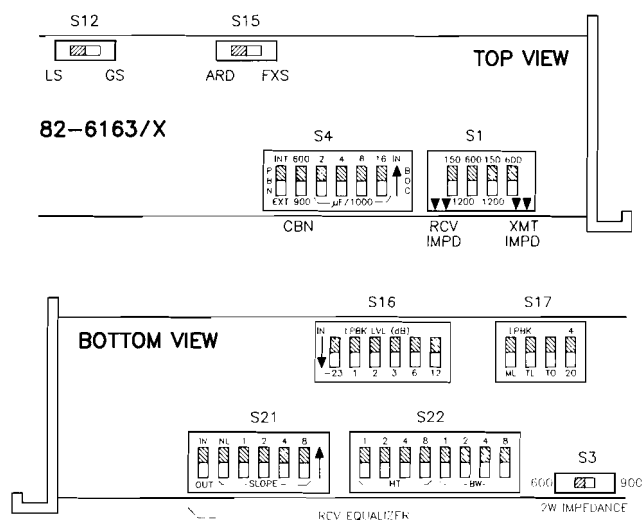

figure 1. Issue 2 6163/X option switch locations
1.03 When optioning the Issue 2 6163/X modules, please disregard figure 4 and the terminating-impedance optioning information in paragraph 3.07 and table 5 of the attached practice. Instead, refer to figure 1 of this addendum and set the *RCV IMPD* and *XMT IMPD* positions of S1 as follows:
1.05 When setting switch options on the Issue 2 6163/X modules (see figure 1 of this addendum), be certain to set the receive-equalizer bypass switch (IN/OUT position of the *SLOPE* DIP switch, S21) as follows before adjusting the equalizer: